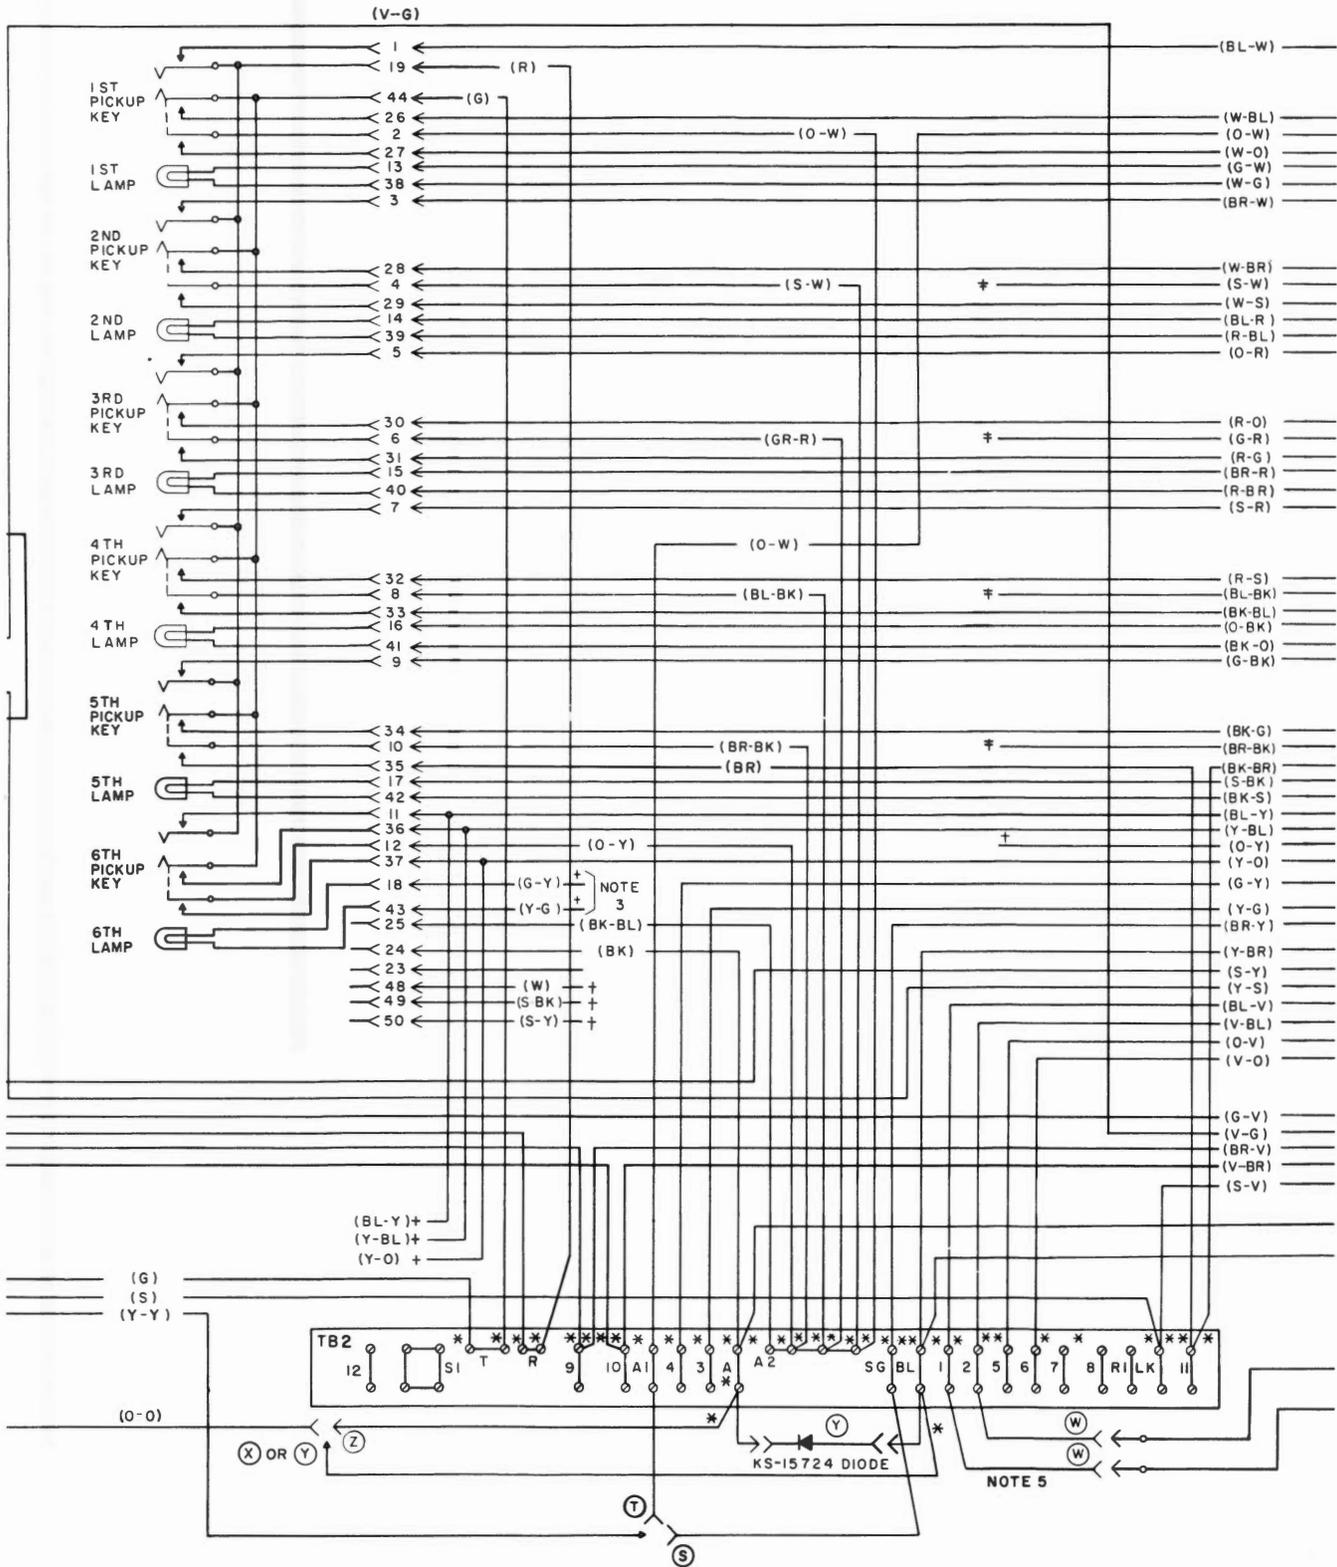

Fig. 6 - 661A2 Telephone Set with 598A Key
- Add 5th pickup key to Fig. 6.
**5.02** Connections for 661A2 with 598A key are shown in Fig. 6.